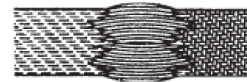

Figure 4
- If any load bearing part of the tie down has been tied into one or more knots. Figure 4.